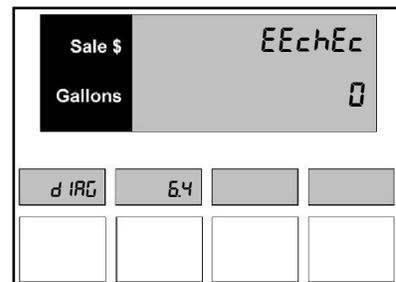

Figure D.6.4 – EEPROM Cksum Fails Counter
- The main display shown in *Figure D.6.4* appears. The PPV display shows the dispenser is in Diagnostics Level 6.4.